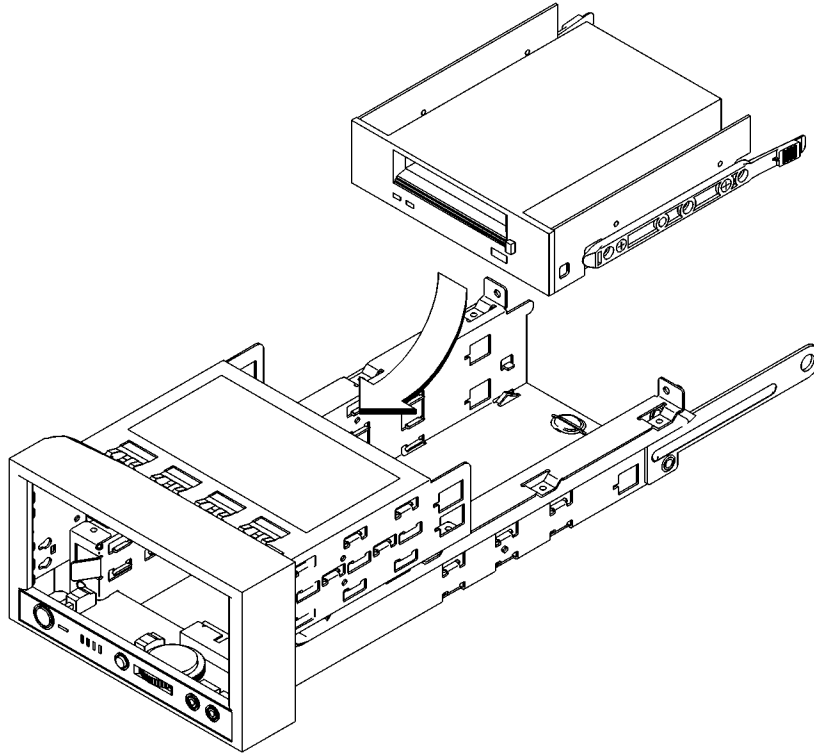

Figure 29
- 2 From the rear of the storage tray, line up the disk slides on the CD-ROM or DDS tape drive with the position 1 slots in the storage tray chassis, and slide it into place, as shown in Figure 29.